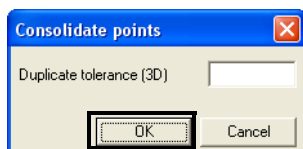

Figure 5-16. Enter the Duplicate Tolerance of Points
2. Enter the tolerance value and click **OK** (Figure 5-16). The tolerance value specifies the 3D distance used to consider two point to be duplicates. 3D-Office consolidates duplicate points (removing one of them from the TIN data set) and regenerates the TIN model.